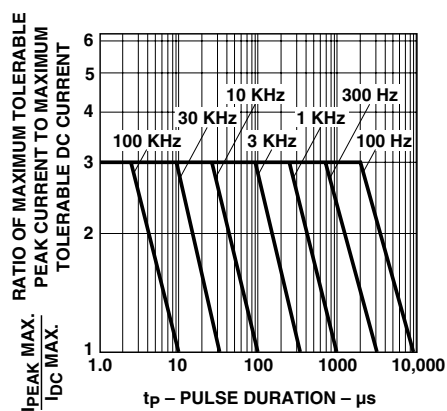

Figure 5. Maximum tolerable peak current vs. pulse duration. ( $I_{DC}$  Max. as per maximum ratings.)
1. See Figure 5 to establish pulsed operating conditions.